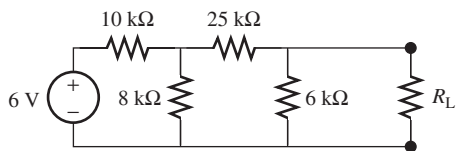

FIGURE P3.54 Circuit for Problem 3.54.
3.54 (A) Find the Thévenin equivalent resistance and voltage as seen by R_L for the circuit in Figure P3.54.
- 3.82** (A) Use PSpice to find the Thévenin equivalent resistance and voltage as seen by R_L for the circuit shown in Figure P3.54.